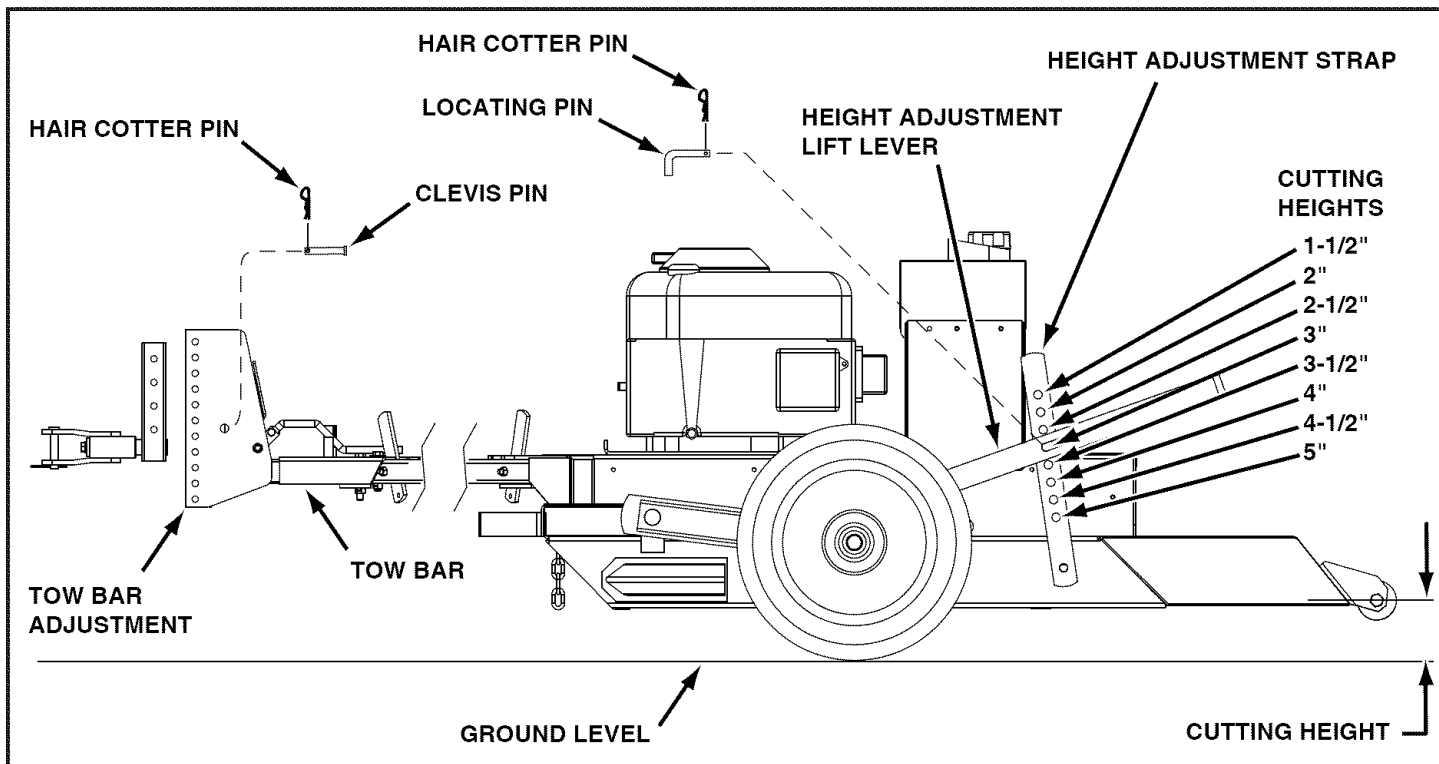

FIG. 6
- To adjust the mower cutting height remove hair cotter pin from locating pin. (See Fig. 6)
- Remove two hair cotter pins from two clevis pins in the tow bar adjustment. (See Fig. 6)